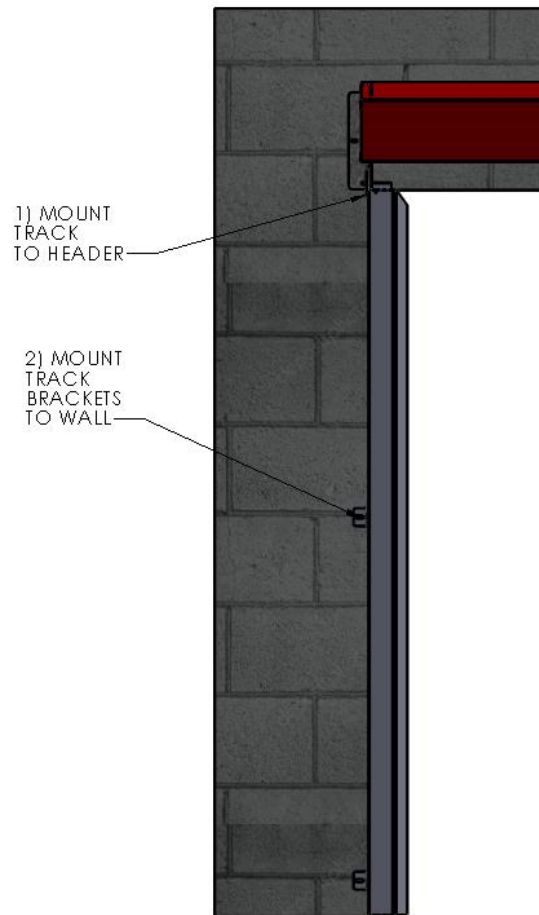

Figure 9 TRACK INSTALLATION
2. With the Track Assembly “hanging” in this position, plumb the Track Assembly to make sure it is vertical. Trace the slot in the bottom Track Mounting Bracket onto the wall. (Figure 9 TRACK INSTALLATION)